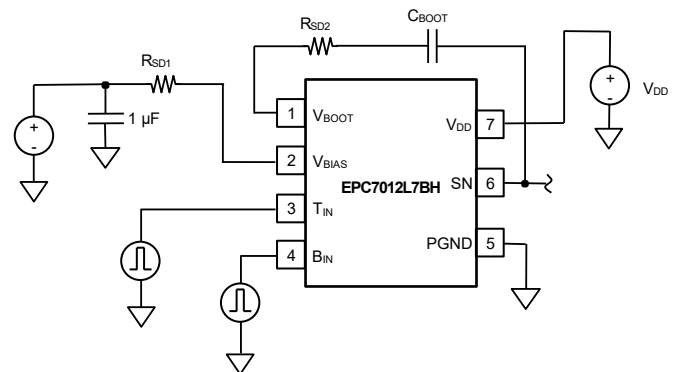

Figure 3. External Damping Resistor Connections
The EPC7012L7BH is designed to be a high-speed power driver. As such it has extremely fast switching node (SN) rise and fall times by design. Fast rise and fall times can and will result in unwanted voltage spikes at the V_{DD} and PGND pins due to any parasitic layout inductance ($V_{SPIKE} = L_{PAR} \cdot di / dt$). If these spikes cannot be reduced to an acceptable level through PCB optimization, two resistors may be added to provide the necessary damping to the local supply loop. These resistors, R_{SD1} and R_{SD2} are shown in Figure 3.